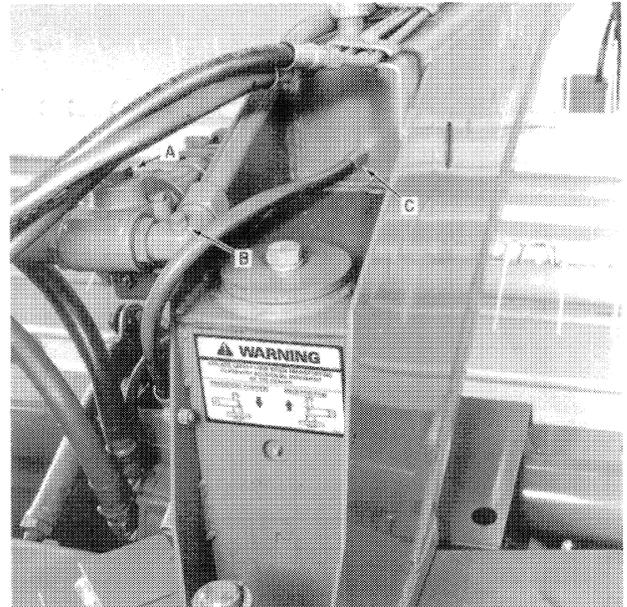

FIGURE 1-2
3. Remove the relief valve, A, Figure 1-2, from the housing. Clean the valve and inspect for wear or contamination. Inspect the O-rings for possible wear and replace them if worn or damaged. Reinstall or replace the valve and then test the machine.
4. Remove 1/4" NPT plug, B, Figure 1-2, and install a high pressure gauge.
8. If the pump oil volume is normal, check the volume at the motor case return line. Remove the line at C, Figure 1-2. Normal flow should be approximately $1\frac{1}{2}$ gallons (5.5 L) per minute. Any amount over 2 gallons (7 L) indicates worn internal motor components and the motor must be rebuilt.